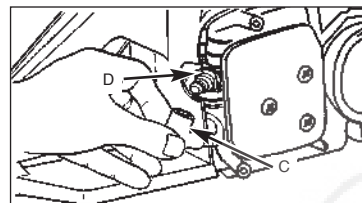

Fig. 18
3. Disconnect the wire connector (C) from the spark plug (D) by pulling and twisting at the same time (Fig. 18).